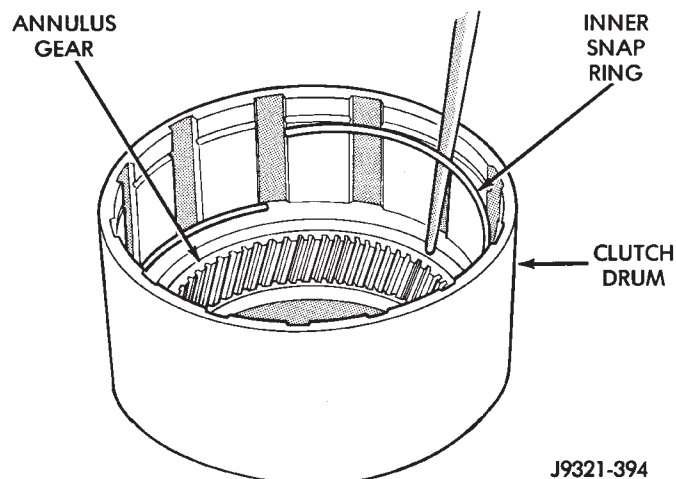

Fig. 213 Clutch Drum Inner Retaining Ring Installation
(6) Slide clutch drum forward and install inner retaining ring (Fig. 213).